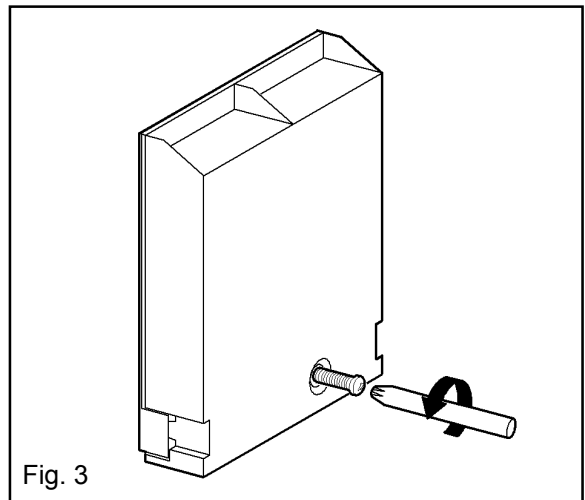

Fig. 3
- First remove retaining screw with pozidrive screwdriver. See Fig. 3.